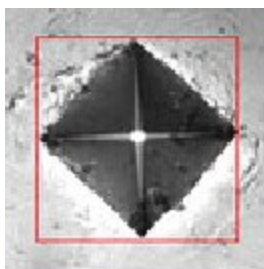

Figure 6-2 Vicker indent.
The Vickers hardness (HV) number is obtained by dividing the applied load in kilogram-force by the surface area of the indentation. The area of the indentation produced from the Vickers square-based pyramidal diamond is determined by the mean distance between the two diagonals of the indentation (Figure 6-2).